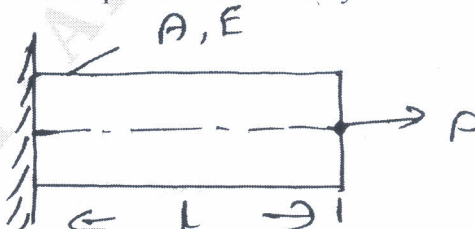

Fig Q4(b)
- b. Use Galerkin method, to find the displacement of the system shows in Fig Q4(b).